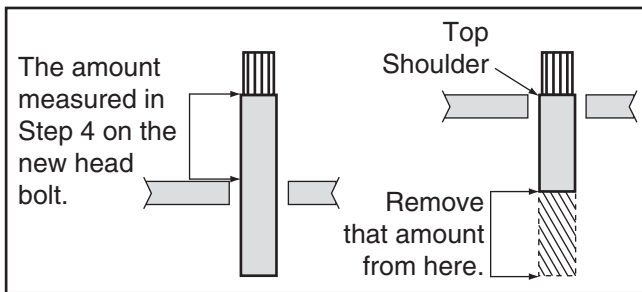

Figure 8. Measuring the amount of the new drawbar head bolt to remove.
5. Remove the amount measured in **Step 4** from the **bottom** of the new bolt head (see **Figure 8**).